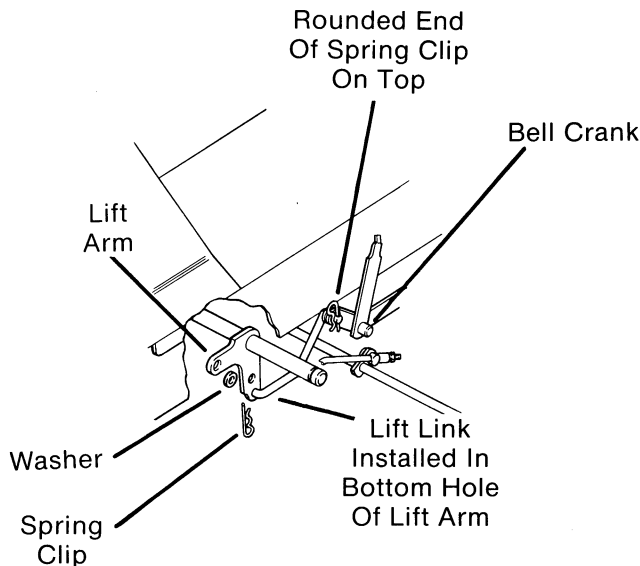

FIG. 9
- H. Lower attachment lift lever and insert lift link into the bottom hole in lift arm as shown in (Fig. 9).
NOTE: Rounded end of spring clip attached at the bellcrank, should be on top as shown in (Fig. 9).
- I. Secure lift link to lift arm with a flat washer and a small spring clip. (Fig. 9)
- D. Remove spring clip and flat washer from front end of lift link attached to lift arm. (Fig. 9) Detach lift link from lift arm.